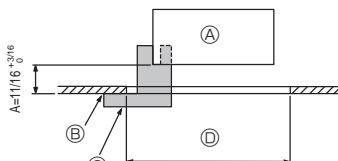
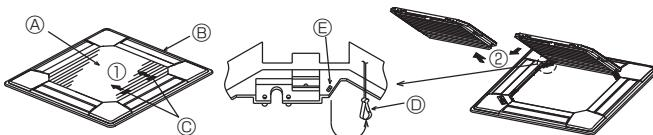
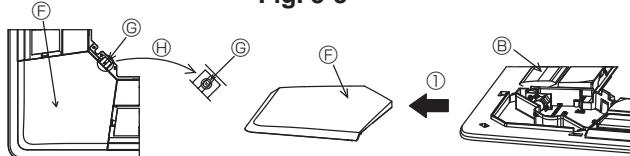

Fig. 5-2
Fig. 5-3
Fig. 5-4
①	Grille	1	950 x 950 (mm), 37-3/8 x 37-3/8 (inch)
②	Screw with captive washer	4	M5 x 0.8 x 25
③	Gauge	1	(Divided into four parts)
④	Fastener	3
⑤	Screw	4	4 x 8
⑥	Screw	1	4 x 12
5.2. Preparing to attach the grille (Fig. 5-2)
- With the gauge ③ supplied with this kit, adjust and check the positioning of the unit relative to the ceiling. If the unit is not properly positioned relative to the ceiling, it may allow air leaks or cause condensation to collect.
④ Main unit
⑤ Ceiling
⑥ Gauge ③ (inserted into the unit)
⑦ Ceiling opening dimensions
5.2.1. Removing the intake grille (Fig. 5-3)
- Slide the levers in the direction indicated by the arrow ① to open the intake grille.
- With the intake grille in the "open" position, remove the hinge of the intake grille from the grille as indicated by the arrow ②.
5.2.2. Removing the corner panel (Fig. 5-4)
- Remove the screw from the corner of the corner panel. Slide the corner panel as indicated by the arrow ① to remove the corner panel.
[Fig. 5-3, 5-4]